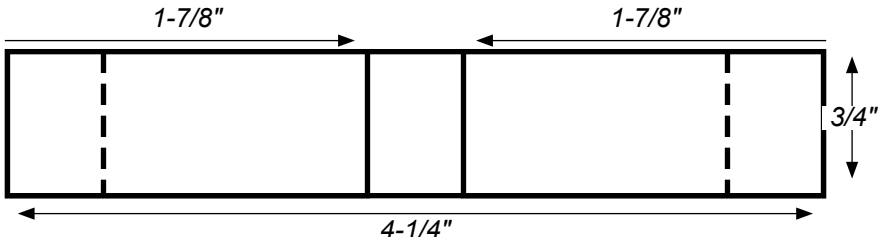

Figure 2
- 2) Flip over the piece. Measure $1\text{-}\frac{7}{8}\text{'}$ from each narrow end and draw a line across the piece (Figure 2). Again, carefully score the lines with the hobby knife. This piece will be the motor stand. Set it aside.